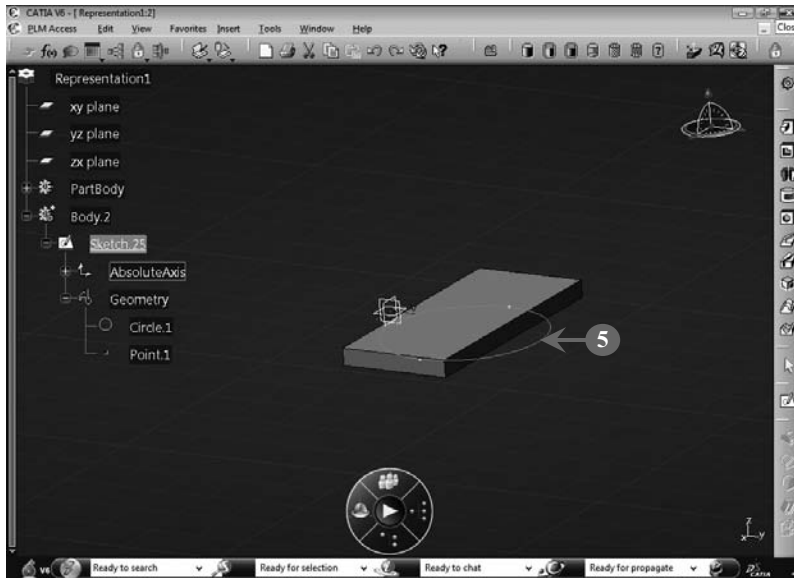

FIGURE 3.125
5. *Open* the sketch in the Part Design workbench. The new sketch is added as the additional body (Body.2) and is also shown in the specification tree, as shown in **Figure 3.125**: